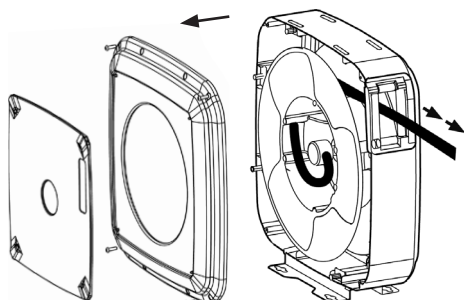

FIG 11.
1. Disassemble one side of the hose reel and pull the hose out 3 m (10 feet) and let the hose get latched (Fig. 11).
1. Disassemble one side of the hose reel and pull the hose out 3m (10 feet) and let the hose get latched (Fig. 11).
1. Demontera ena sidan på slangrullen och dra ut 3 m av slanggen och spärra rullen (Fig. 11).